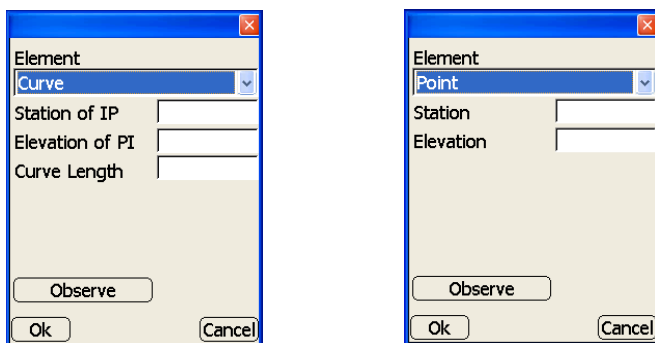

Figure 3-36. Vertical Profile Elements Dialog Box
- Add – on the **vertical profile** dialog box, press **Add** to enter an element and its respective information, then press **Ok** to save the information (Figure 3-36).
- Station of IP: enter the station number for the IP (PI).